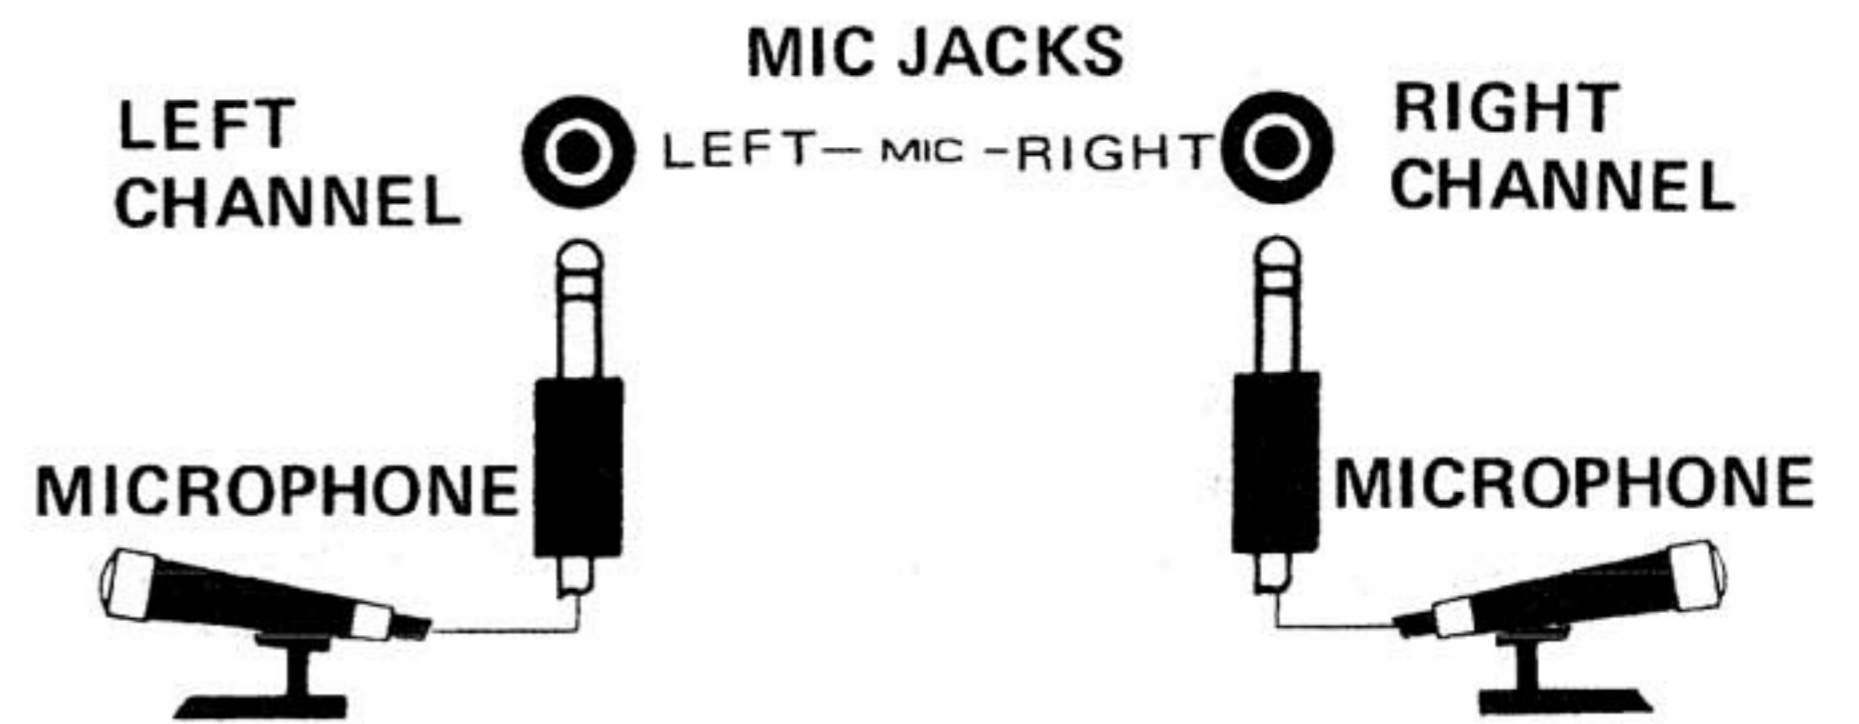

Fig. 34
1. Employ two microphones of the same type and connect them to the front panel MIC jacks (Fig. 34).